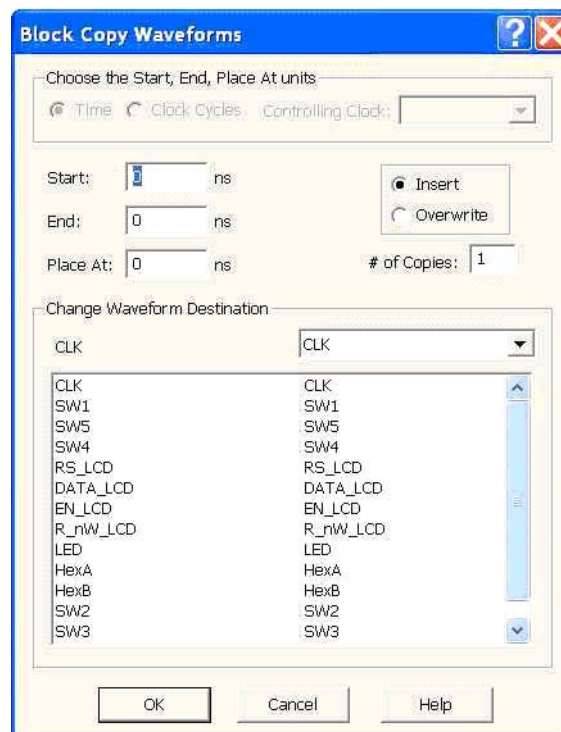

Figure 7-14 • Block Copy Waveforms Dialog Box
2. Select the **Edit > Block Copy Waveforms** menu option (choose to select all waveforms, if necessary). This opens the Block Copy Waveforms dialog box (Figure 7-14) with the selected signals displayed in the Change Waveform Destination list box.